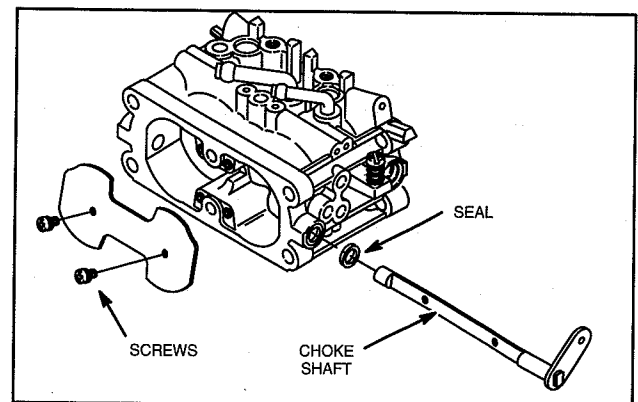

Fig. 53 – Install Choke Shaft
4. Install choke shaft, Fig. 53.